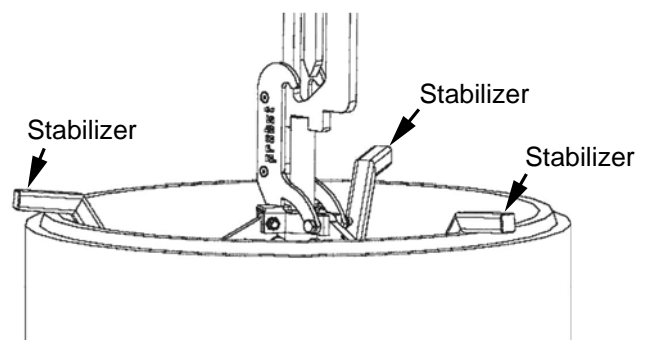

Fig. 5
- Position the Manhole Lifter into the manhole ring, ensuring that all three stabilizers of the Manhole Lifter are resting on the upper edge of the manhole ring (Fig. 5).